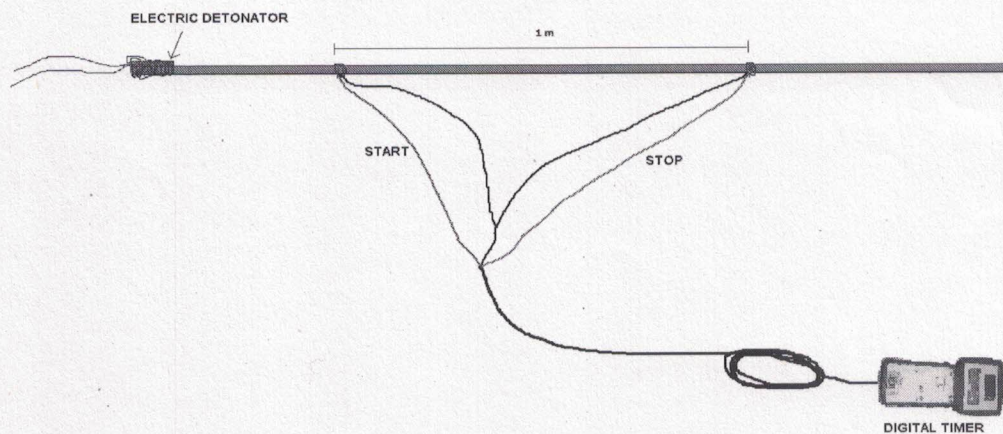

Fig 1: Typical photograph of experimental setup for VOD determination of detonating fuse
- e. Crimp the No. 6/8 detonator (CDD/CED/AED) to the detonating fuse as shown in figure 1 and shot is fired with the help of approved type exploders.